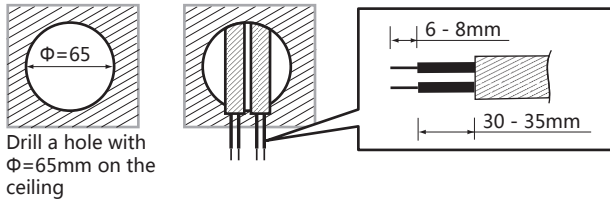

FIG.12
- To install detector, please drill a hole with diameter of 65mm on ceiling board and keep the power cable outside. Please strip off 6 - 8mm of cable sheathing for wiring (See FIG.12).